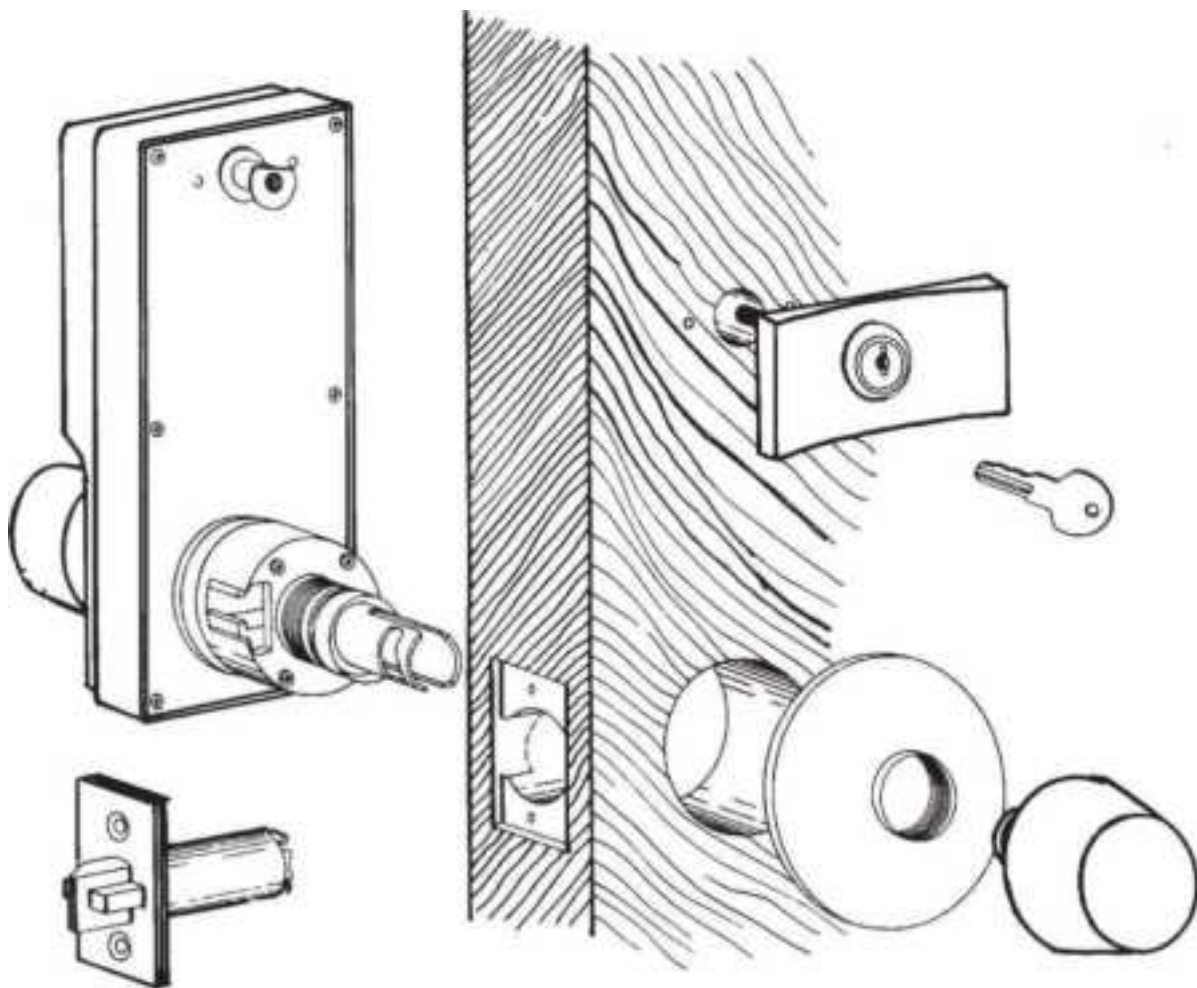

**Figure 18.29** Exploded view of Unican 1000 positioning for a wood door.
**Installation.** The Unican 1000 uses an ASA 161 cutout ( $2\frac{1}{8}$  inches in diameter through the hole with a  $2\frac{3}{4}$ -inch backset) like most other heavy-duty cylindrical locksets (Fig. 18.29). In addition, the lock requires two  $\frac{1}{4}$ -inch-diameter holes to bolt the top of the lock case to the back side of the door and a 1-inch-diameter hole for the key-operated combination change mechanism to operate from the back side as well. The Unican can be installed in wood or metal doors from  $1\frac{3}{8}$  to  $2\frac{1}{4}$  inches thick.